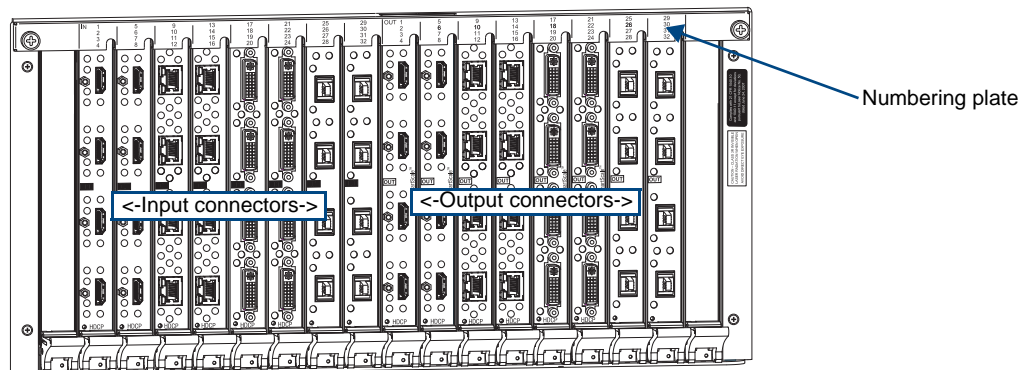

FIG. 16 Enova DGX 32 - Numbers on numbering plate indicate input and output board channels
- Enova DGX 32 – Enclosures have 16 vertical board slots (8 slots each for the input and the output boards, with 4 connectors per board), allowing for a maximum configuration of 32x32 (FIG. 16).